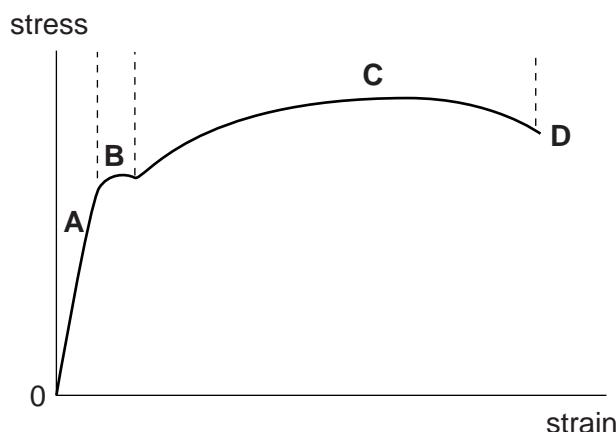

Fig. 4
- 4 Fig. 4 shows a typical stress/strain graph for mild steel.